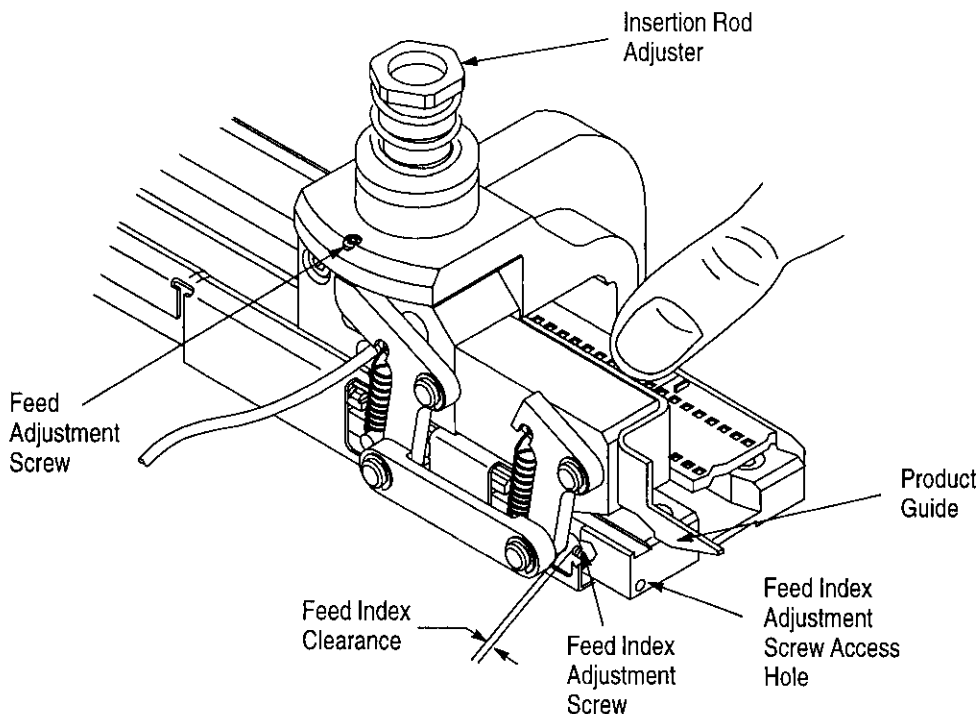

Figure 3
Product guide (PN 679689-1 – see Figure 3) is to be installed when the MTE tube feed assembly is used to terminate connectors that are unloaded from tube PN 661042-1. This guide is to be removed (and saved) when the connectors are unloaded from tube part numbers 112150-1 and 112151-1.
Receptacle and nonlatching pin housing connectors are packaged in either tube part number 112150-1 or 112151-1 and therefore do not require the installation of the product guide. Remove and retain the product guide (see Figure 3). The guide must be removed to prevent damage to the connectors being fed to the insertion station.
Shrouded pin housings are packaged in tube part number 661042-1 and require the installation of the product guide (see Figure 3) for smooth feed operation.
3.3. Feed Adjustment (Figure 3)
— To retract the contact, turn feed adjustment screw CLOCKWISE and pull back on the housing. See Figure 3.
3.4. Feed Index Adjustment (Figure 3)
To adjust the feed index adjustment screw, use a .050 inch hex wrench entering at right end of the track. A clearance of approximately 3.00 mm [.118 in.] between right feed pawl and the end of the adjustment screw is required when wire inserter is in the up (idle) position (refer to Figure 3). To obtain or to verify this clearance, proceed as follows:
3.5. Wire Insertion Depth Adjustment (Figure 3)
Wire Too Deep In Contact Slot — Turn adjuster 1/6 revolution CLOCKWISE (see Figure 3) to decrease the wire insertion depth by approximately .20 mm [.008 in.] Make a test termination following the procedures in Paragraph 3.2, Test Termination. Inspect the termination according to the procedures outlined in Section 5, TERMINATION INSPECTION. Re-adjust if necessary.
Wire Not Deep Enough In Contact Slot — Turn adjuster 1/6 revolution COUNTERCLOCKWISE (see Figure 3) to increase the wire insertion depth by approximately .20 mm [.008 in.] Make a test termination following the procedures in Paragraph 3.2, Test Termination. Inspect the termination according to the procedures outlined in Section 5, TERMINATION INSPECTION. Re-adjust if necessary.